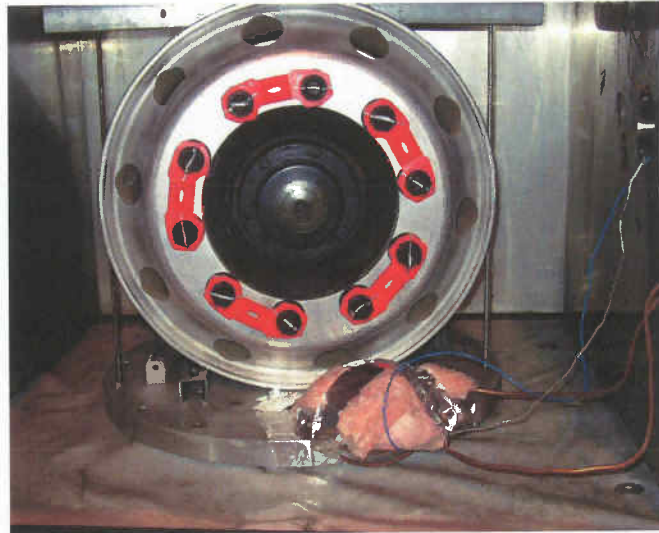

Figure 3A
2. 26" Hub Pilot Alloy Rim, after vibration testing at 150°C: Figure 3A and Figure 4A,